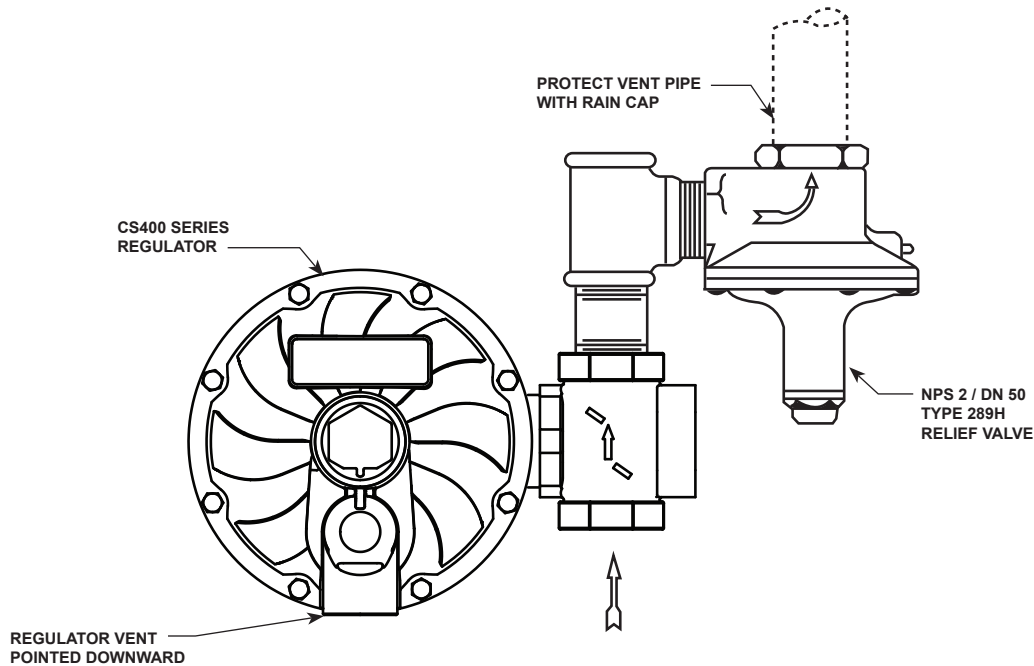

Figure 5. CS400 Series Regulator Installed with the Vent Pointed Downward and with a Type 289H Relief Valve for High Capacity Relief
All vents should be kept open to permit free flow of gas to the atmosphere. Protect openings against entrance of rain, snow, insects, or any other foreign material that may plug the vent or vent line. On outdoor installations, point the spring case vent downward to allow condensate to drain (see Figures 5 through 7).
- **Install the regulator with the vent pointed vertically down, see Figures 5 through 7.** If the vent cannot be installed in a vertically down position, the regulator must be installed under a separate protective cover. Installing the regulator with the vent down allows condensation to drain, minimizes the entry of water or other debris from entering the vent, and minimizes vent blockage from freezing precipitation.
If the regulator is used in conjunction with a Type 289H relief valve, it should be installed as shown in Figure 5. The outside end of the vent line should be protected with a rainproof assembly. The Type 289H should be set 10 inches w.c. / 25 mbar higher than the outlet pressure setting of the regulator, up to 30 inches w.c. / 75 mbar outlet pressure. For pressure greater than this, set the Type 289H 0.75 psi / 0.05 bar higher than the outlet pressure setting of the regulator.